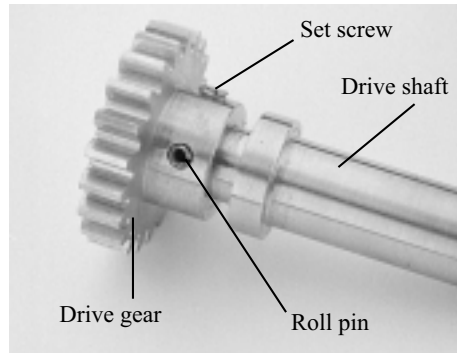
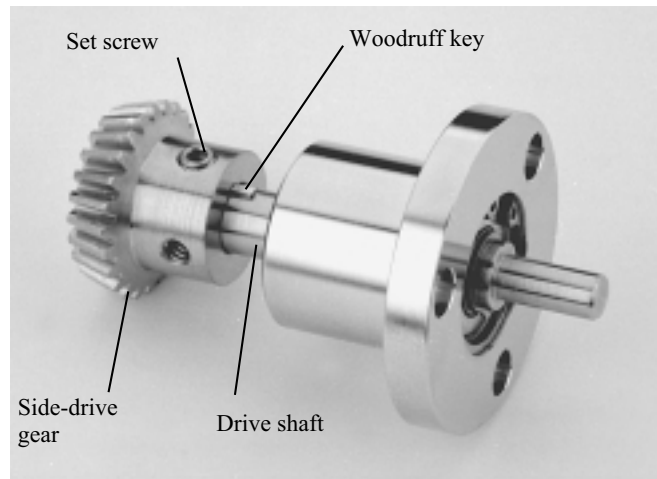

Figure 5-32. Bottom-drive assembly
Figure 5-33. Side-drive assembly
Step 5: Perform this step only if damage to either the drive gear or the drive shaft requires disassembly of these parts. If you are disassembling a bottom-drive assembly, first loosen the set screw that secures the gear to the shaft. Then use a small-diameter drift to drive out the roll pin that runs through both parts (see Figure 5-32). If you are disassembling a side-drive assembly, loosen the two set screws that secure the gear to the shaft and work the gear off the shaft. Working the gear free may take some vigorous pushing and prying, as it is held tightly in place on the shaft by a Woodruff key (see Figure 5-33).